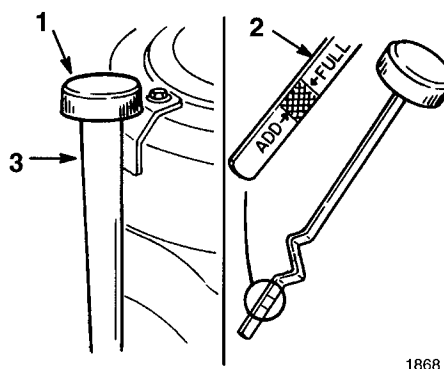

Figure 31
3. Clean around the oil dipstick (Fig. 31) so dirt cannot fall into the filler hole and damage the engine.
4. Unscrew the oil dipstick and wipe the metal end clean (Fig. 31).
5. Screw the oil dipstick fully onto the filler tube (Fig. 31). Unscrew the dipstick again and look at the metal end. If oil level is low, slowly pour only enough oil into the filler tube to raise the level to the "FULL" mark.
- Slowly pour approximately 80% of the specified amount of oil into the filler tube (Fig. 31). Now check the oil level; refer to Checking Oil Level, page 30, steps 4–5.